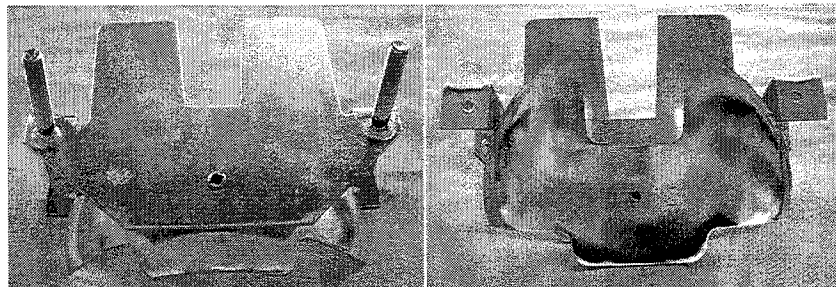

Figure 3
- Remove the reflector assembly from the rubber-backing pad, then the bulb assembly (pull the entire bulb assembly up to remove). Then cut the 2 mounting studs using a hacksaw or the Rotary Tool, cut them close as possible to the back plate (the marked area) as shown in Figure 3 (left). Turn over the assembly and then drill the rivet as in Figure 3 (right) holding on the reflector using the drill with $\frac{1}{8}$ " or metric equivalent drill bit. Drill the rivet until the reflector can be easily removed.